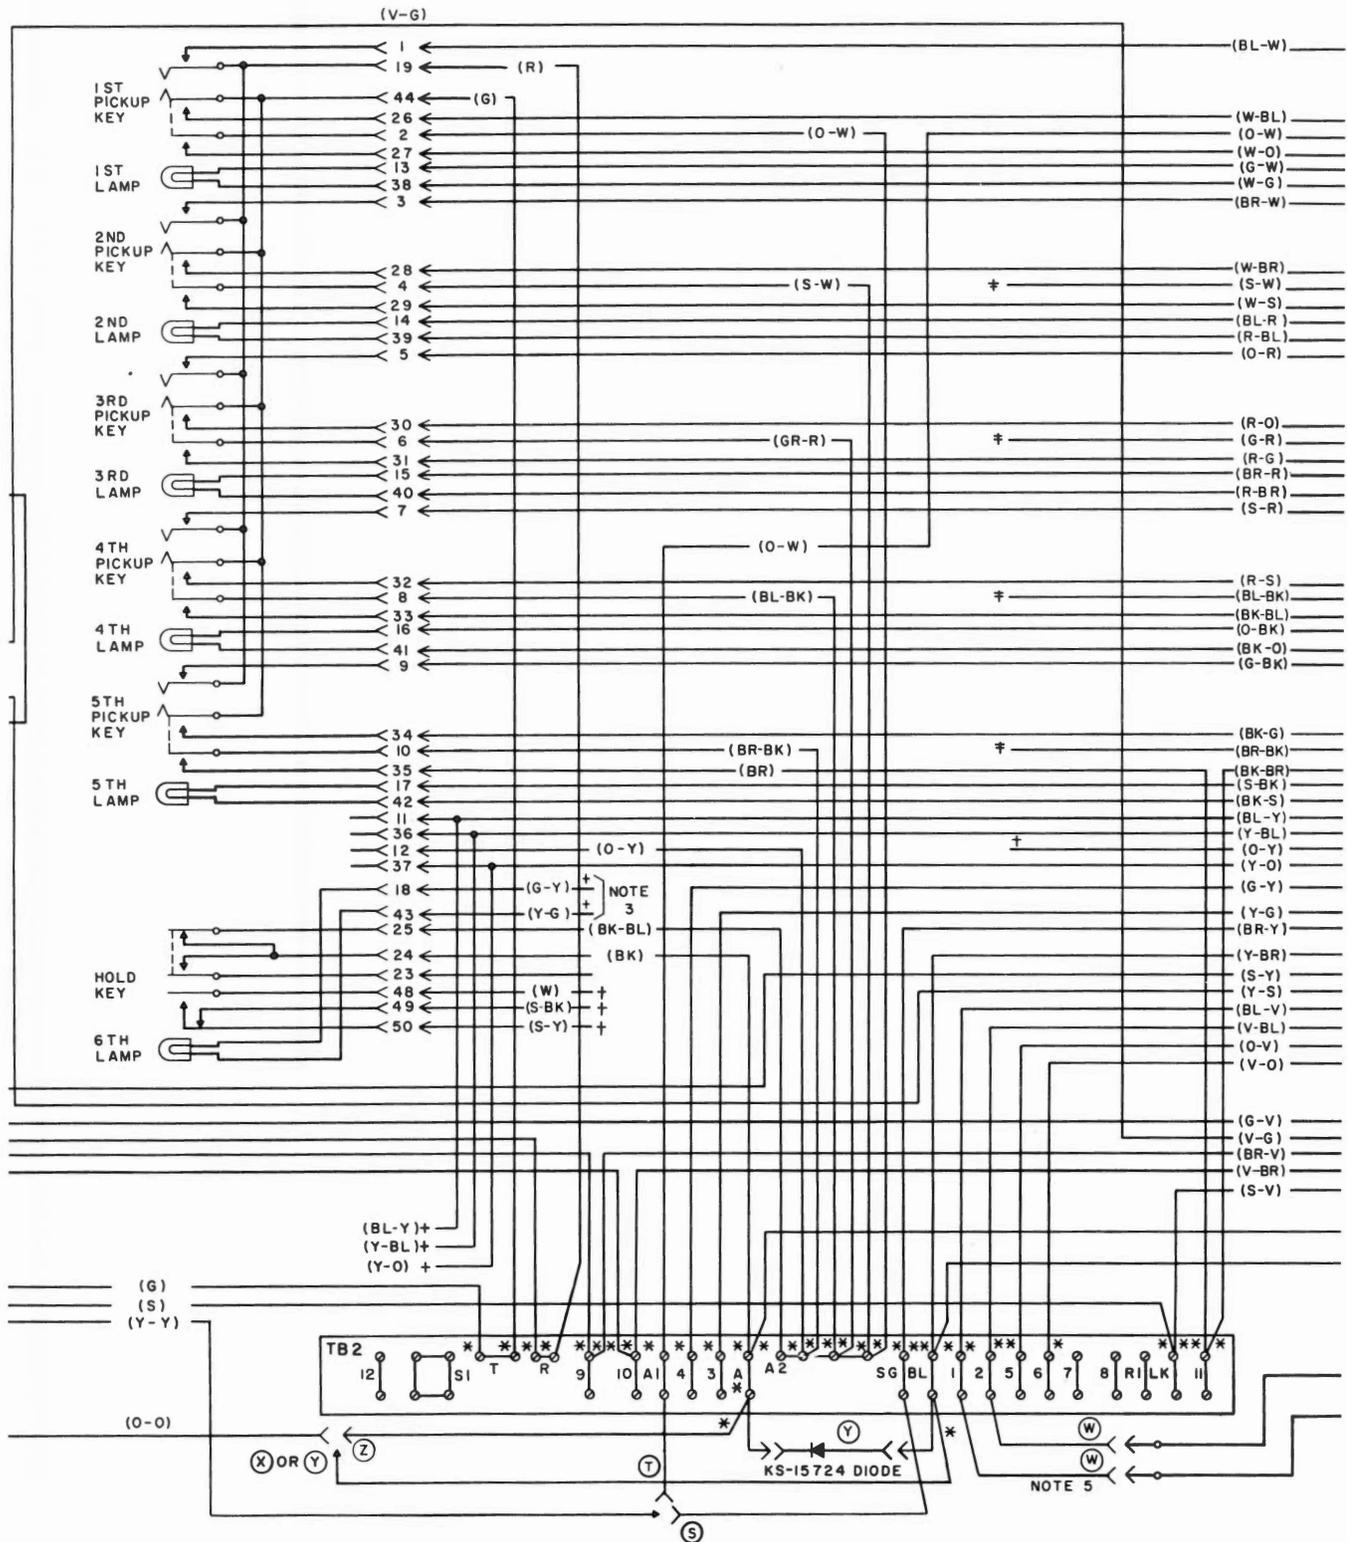

Fig. 5 - 661A1 Telephone Set with 599A Key
**5.01** Connections for 661A1 with 599A key are shown in Fig. 5.
**5.04** The schematic drawings (Fig. 5, 6, and 7) show only a portion of the 40A dial circuit. See section covering station dials, 40 type, for complete schematic drawing and description of dial.